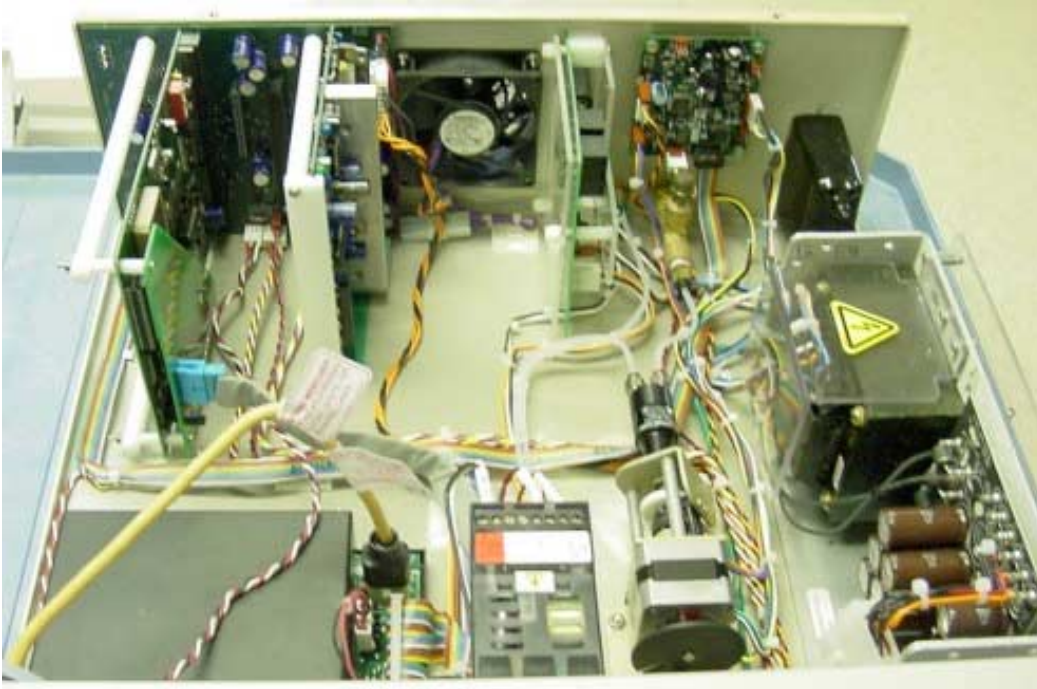

Figure 1. View of the inside of an M-7500.
3. Remove the cabinet cover from the base unit by removing the nine screws (Figure 1).